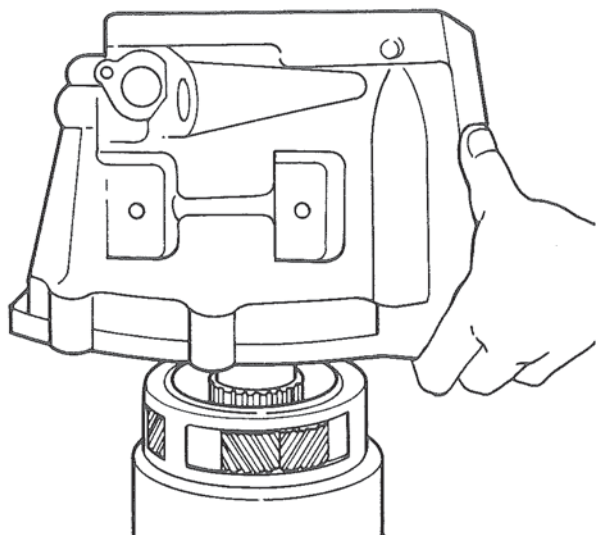

Figure 14. Assembling Case Over Output Shaft.
2. Place the transmission case over the pinion cage and output shaft assembly so transmission case rests squarely on arbor press table which is supporting assembly tool. Figure 14.